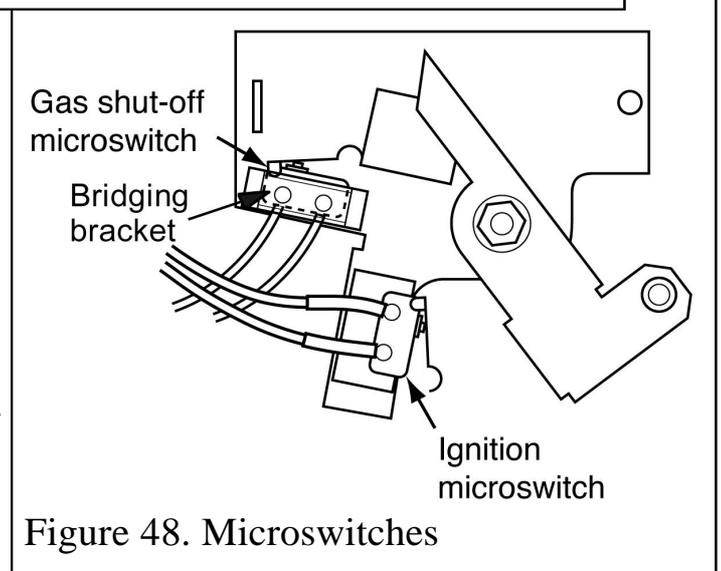

Figure 48. Microswitches
3. Disconnect the leads from the ignition microswitch (The lower of the two microswitches - See figure 48).
4. Detach the bridging bracket, microswitch assembly by removing two screws (See figure 48).